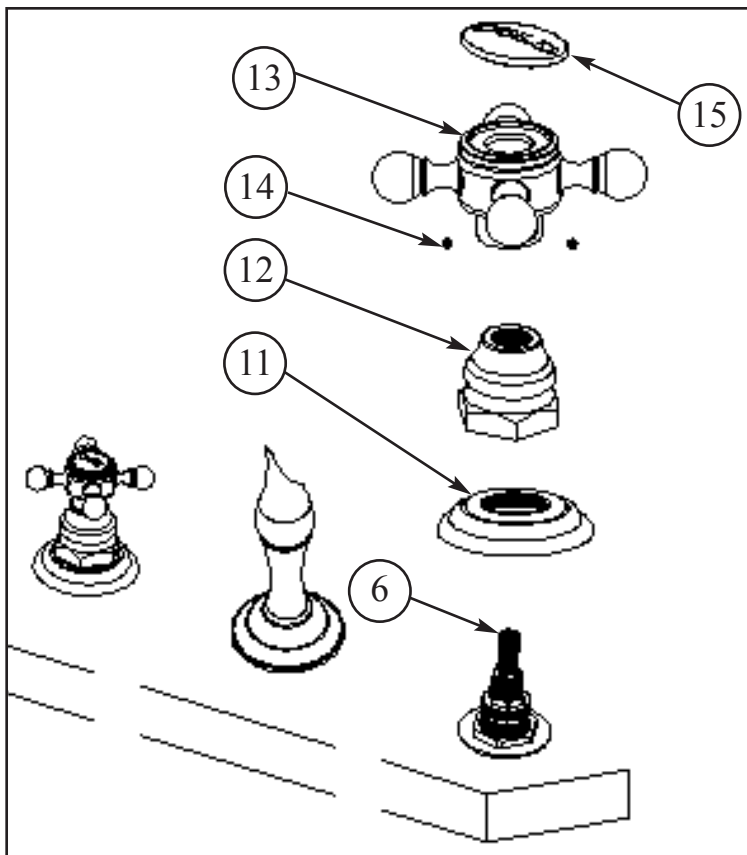

Figure 3
- Turn VALVE STEM (6) to off position. Attach ESCUTCHEON (11) BONNET (12) and HANDLE (13). Any adjustments for rotational alignment must be made to the VALVE BODY (6), not to the cartridge. Allow minimum spacing between HANDLE (13) and BONNET (9) to prevent damage to the surface finish. Secure HANDLE (13) into place with SET SCREW (14). Remove adhesive backing from desired BUTTON (15) and place onto HANDLE (13). See Figure 3.
- Secure BASE (17) in place by attaching the MOUNTING KIT (18) to underside of deck. Place SPRAY (16) and HOSE (20) through BASE (17). Tighten HOSE (20) onto DIVERTER TEE (2).
- Remove AERATOR (21) from SPOUT (1), turn on water supply, and flush both valves until water is clear. Check for leaks and make any final adjustments required. Re-attach AERATOR (21) to the SPOUT (1).